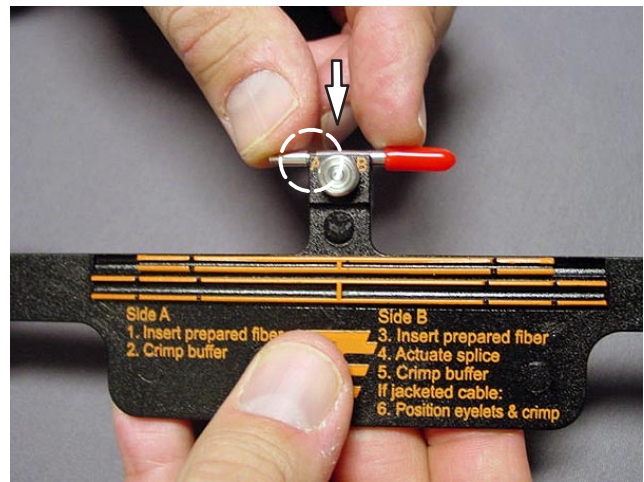

Figure 6
4. Place splice into termination tool as shown in Figure 6, notch goes into side A.